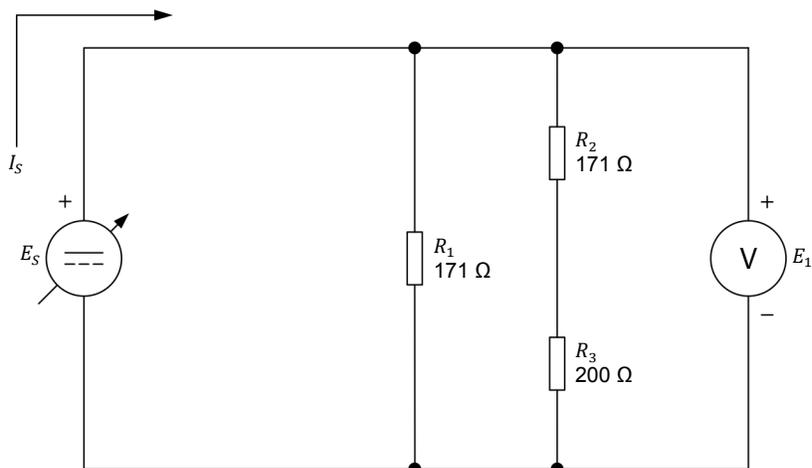

Figure 22. Determining the equivalent resistance of resistors connected in series-parallel (case 2).
20. Set up the series-parallel circuit shown in Figure 22. To obtain the resistor arrangement of Figure 22, make the necessary connections and switch settings on the Resistive Load module.
21. Calculate the equivalent resistance $R_{Eq.}$ of series-parallel resistors R_1 , R_2 , and R_3 in Figure 22.